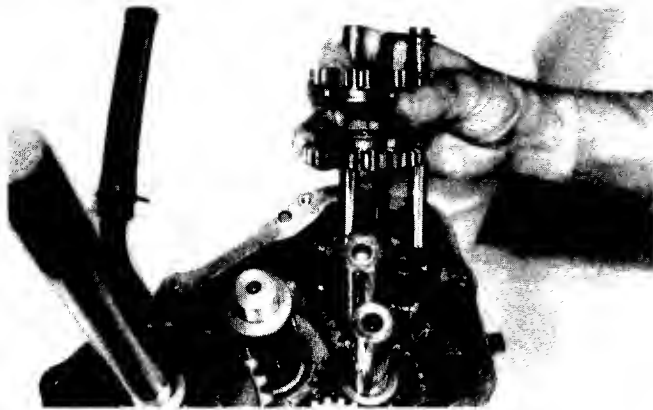

FIG. 4.10-SHIFT RODS AND GEARS
11. Hold shifter assembly together and install over shaft and into cover, Fig. 4.10.